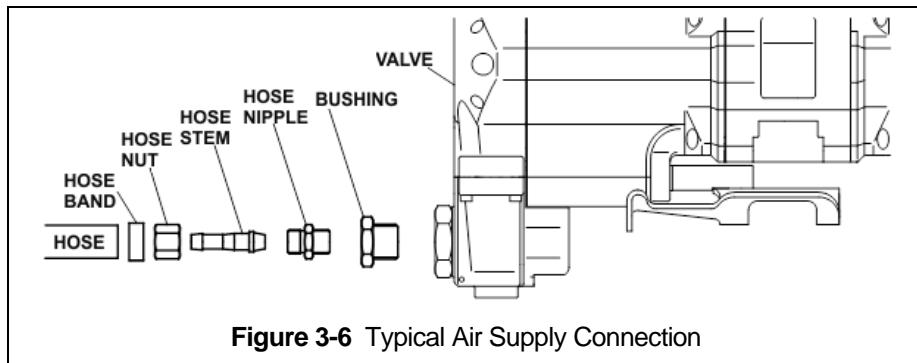

**Figure 3-5** Hoist "Secondary Support" Configuration
- 3.8.1 For applications requiring a “Secondary Support” a support attachment location has been provided in the hoist Top Hook Yoke/Hoist Body. Reference Figure 3-5.